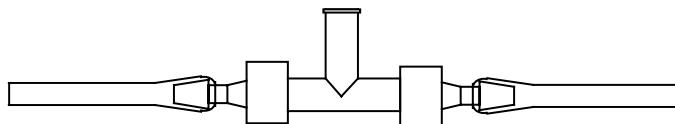

Figure 6. Manifold Plumbing Piece
- 63 Locate the manifold pieces (Figure 6), as specified in the *Identify Reagent Plumbing Setup* (p. 60), and detach them from the module. Insert an extra plug in the opening. There can be up to 9 manifold pieces per module: